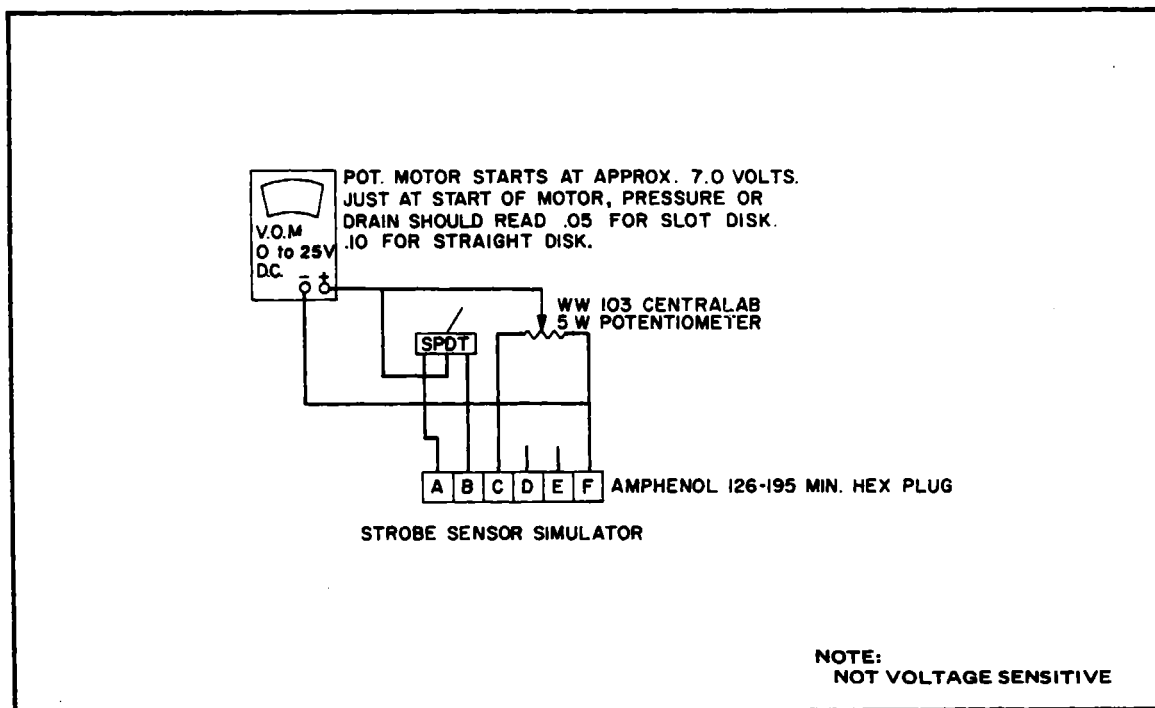

Figure 14-49. Strobe Sensor Simulator
- (d) Connect the strobe sensor simulator. (Refer to Figure 14-49.) Move the potentiometer and listen to the computer. The motor should run at approximately 7 volts.